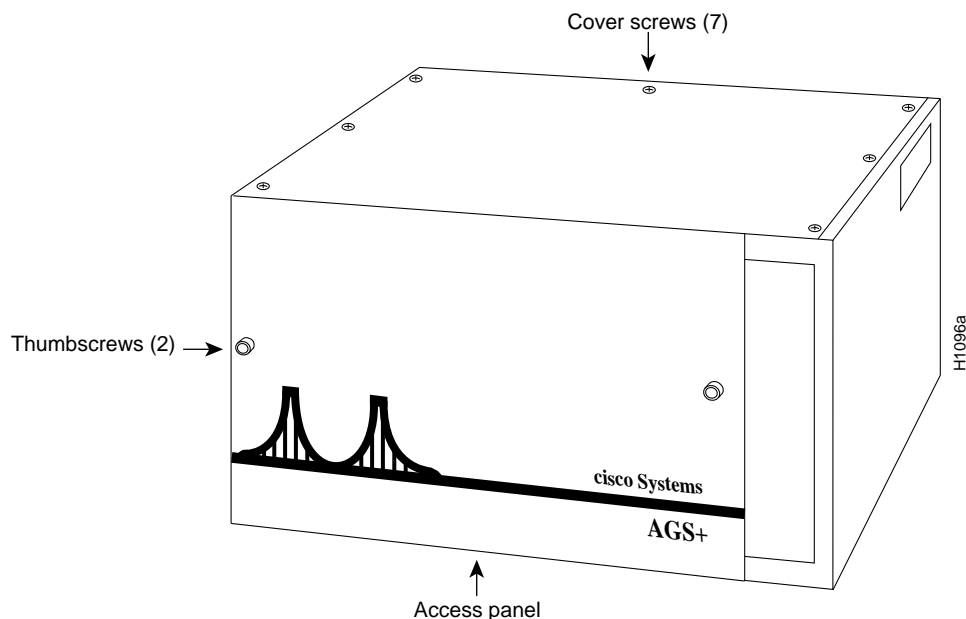

Figure 2 Chassis Front and Top Panels
Step 2 To access cards in the card cage, loosen the two thumbscrews and remove the front panel from the chassis. (See Figure 2.)